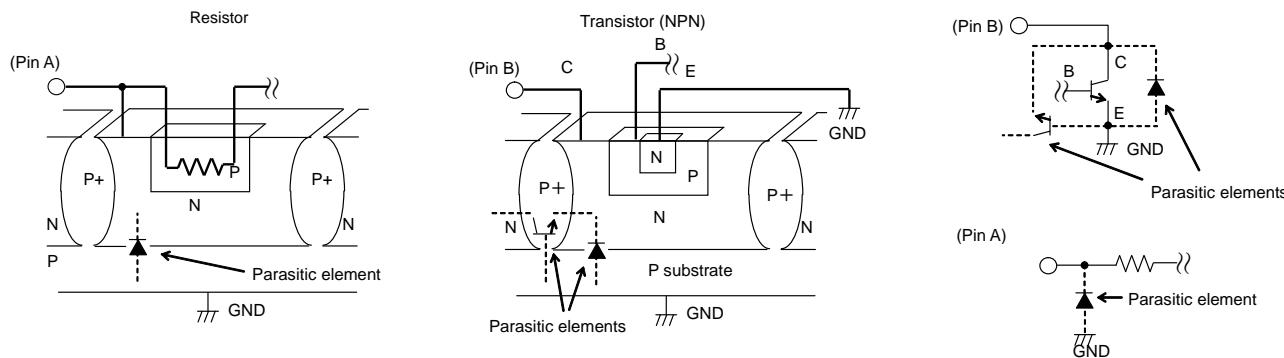

Fig.45 Example of a Simple Monolithic IC Architecture
8) This monolithic IC contains P+ isolation and P substrate layers between adjacent elements in order to keep them isolated. P/N junctions are formed at the intersection of these P layers with the N layers of other elements to create a variety of parasitic elements. For example, when the resistors and transistors are connected to the pins as shown in Fig.45, a parasitic diode or a transistor operates by inverting the pin voltage and GND voltage. The formation of parasitic elements as a result of the relationships of the potentials of different pins is an inevitable result of the IC's architecture. The operation of parasitic elements can cause interference with circuit operation as well as IC malfunction and damage. For these reasons, it is necessary to use caution so that the IC is not used in a way that will trigger the operation of parasitic elements, such as the application of voltages lower than the GND (P board) voltage to input and output pins.